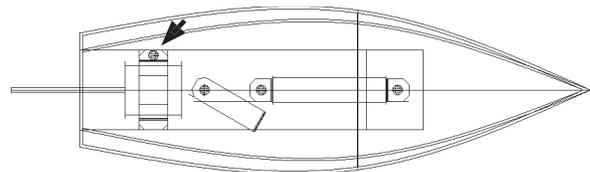

Fig. 67
Step 25. Click Copy and OK, **Fig. 67**.